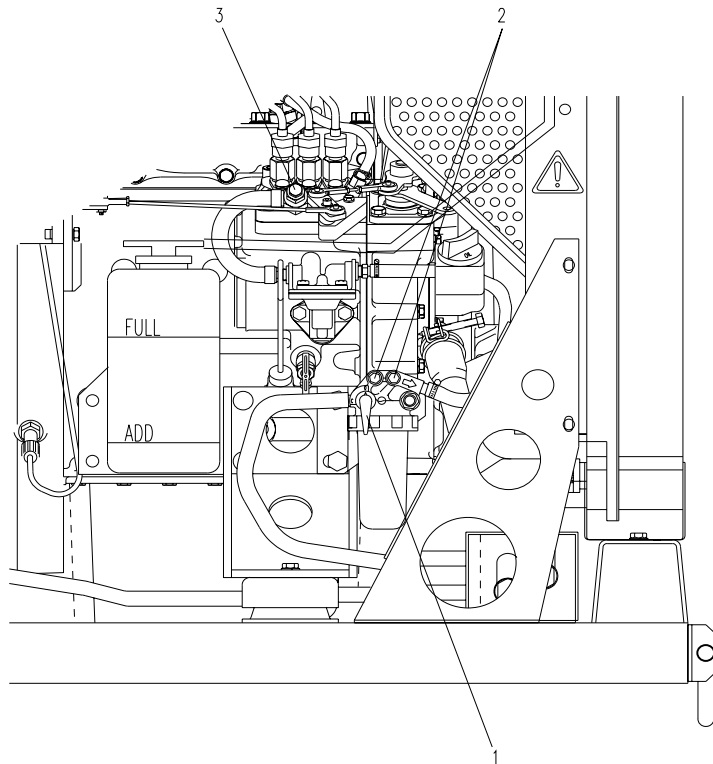

Figure 4-16. Fuel System
- d. Open fuel bleed port (1, Figure 4-16) on the injection pump.